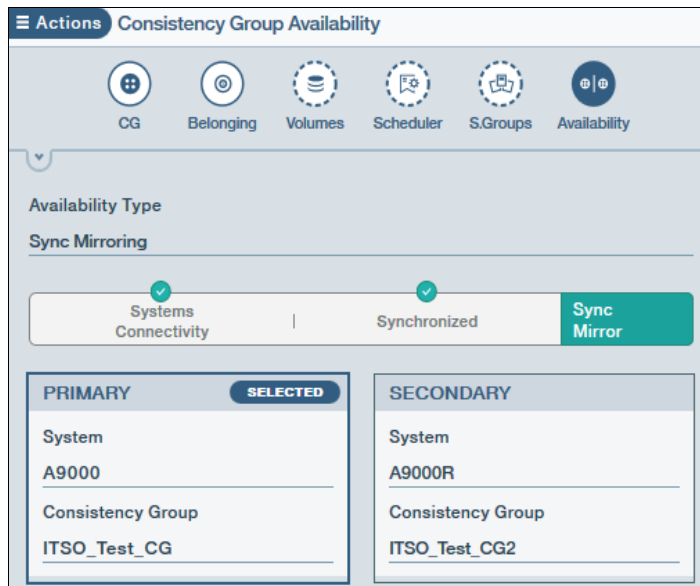

Figure 4-33 Consistency group mirroring status for Sync Mirror
- Click **Apply** to immediately establish the volume mirrors. Because there are no volumes in the CGs, the mirroring status is synchronized, as shown in Figure 4-33.